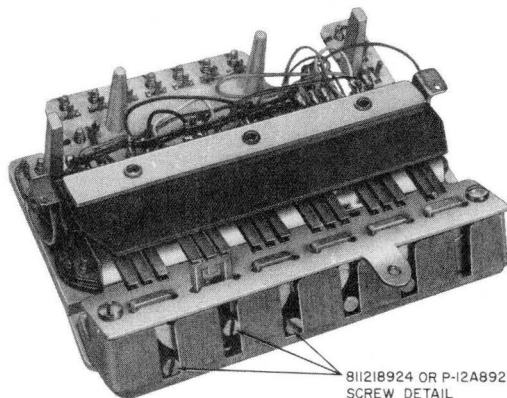
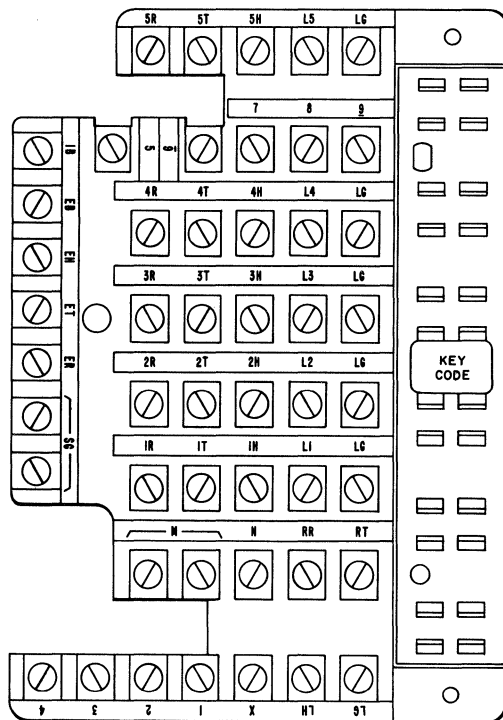

Fig. 1—636A Key, Bottom View
Fig. 2—Terminal Board for the 636A and 589Y Key
2.01 The 636-type key (Fig. 1) has a terminal board arrangement to accommodate matching cord terminal wafers, so that any line connected to the set can be interchanged readily to appear on any five line pickup keys. See Fig. 2 and 3 for terminal designations on the 636A and 636B, respectively.
2.03 Certain pickup buttons on 4- and 6-button sets are arranged for conversion to signaling. To convert, remove \blacklozenge 811218924 \blacklozenge (P-12A892) screw detail (Fig. 1) and make necessary wiring changes. Table A shows key and associated telephone sets with convertible buttons.